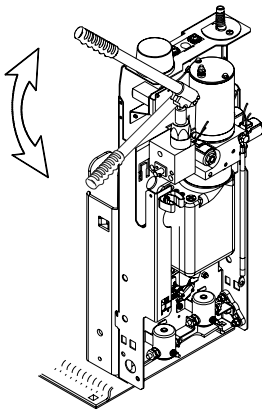

FIGURE 2-14: RAISE PLATFORM
- c. Refer to **Figure 2-14**. Insert notched end of pump handle into pump shaft with roll pin crossing. Operate pump to begin raising and folding platform.